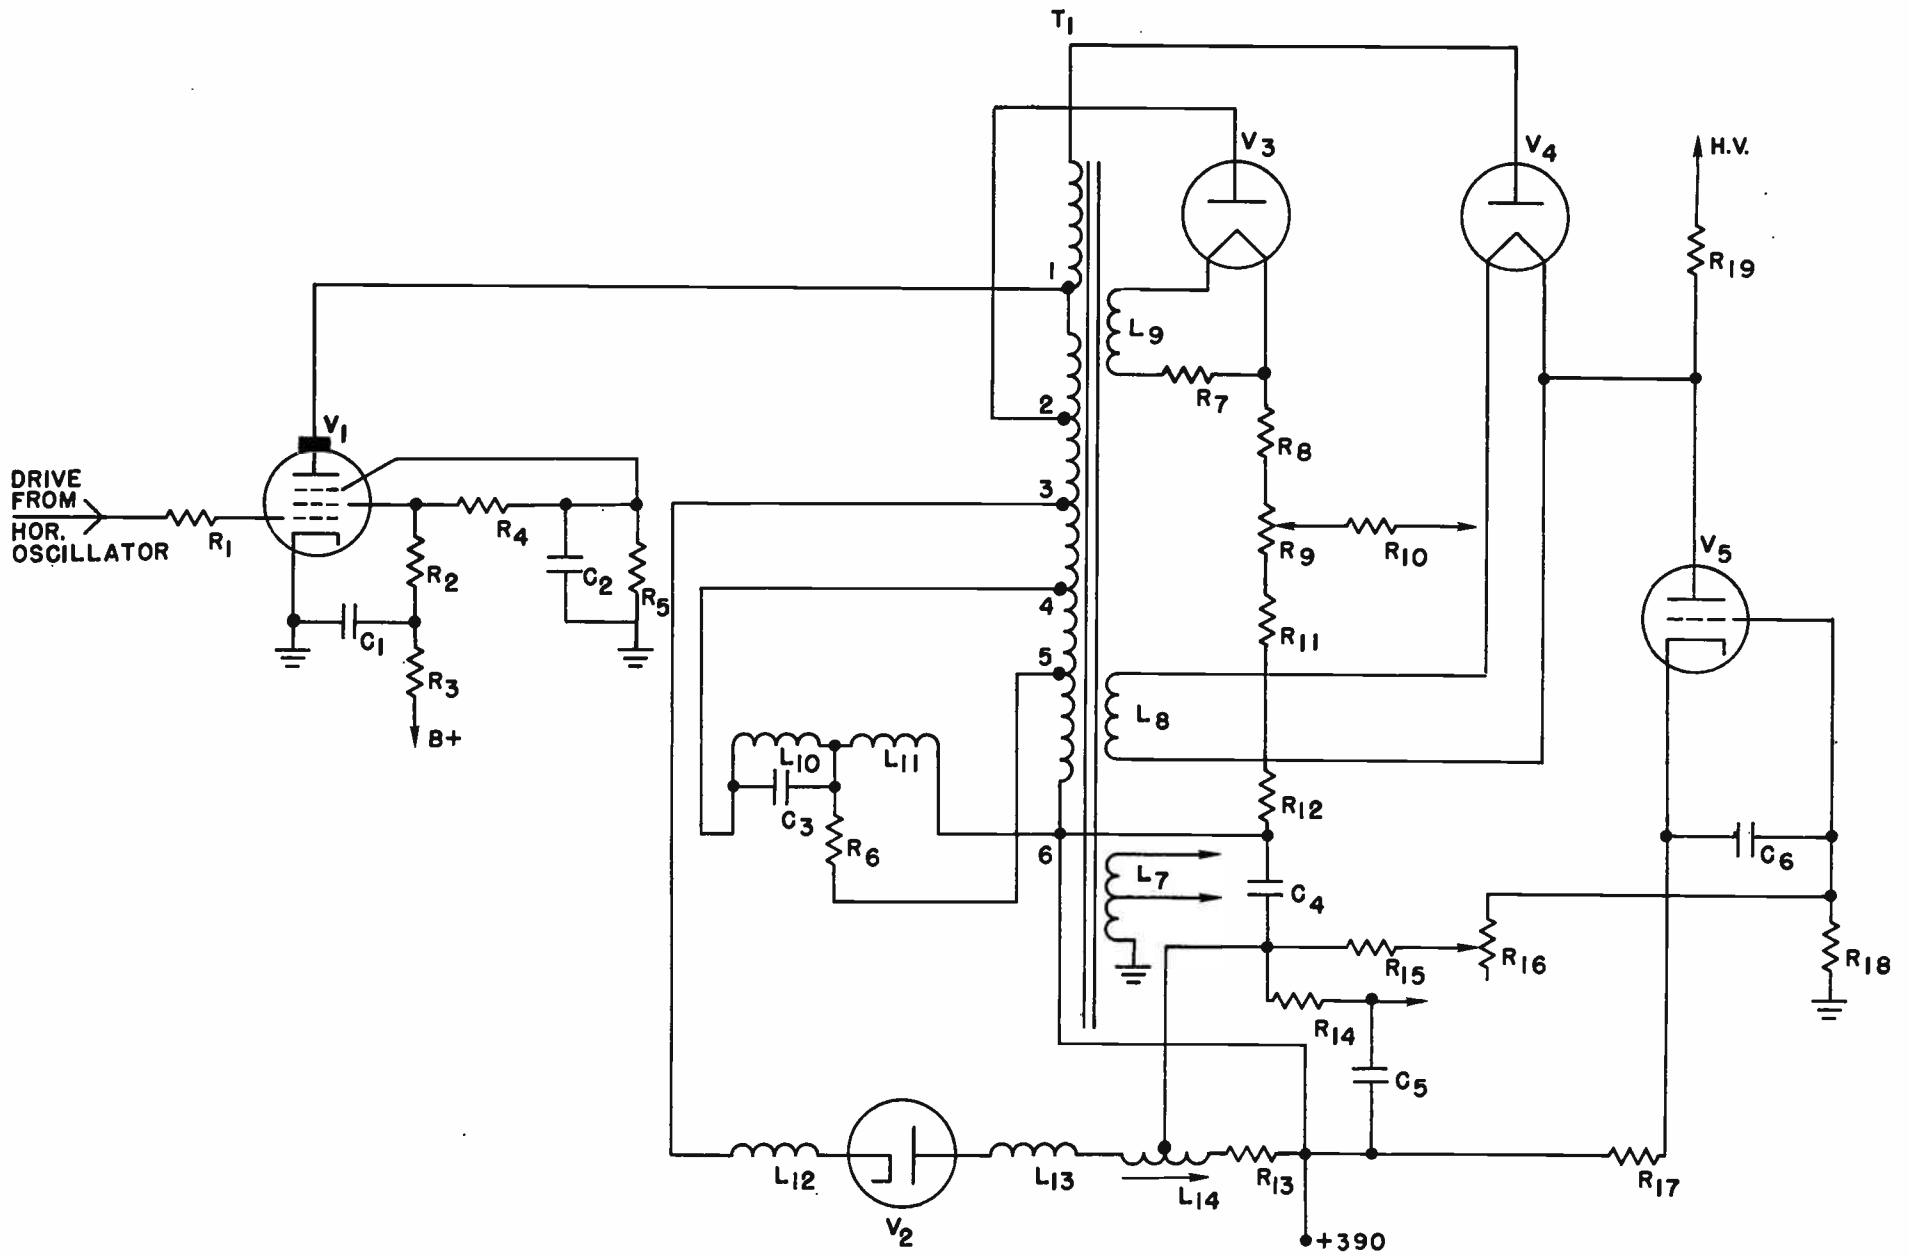

Fig. 43. Horizontal output circuit in a color TV receiver.
The horizontal output system of another color TV receiver is shown in Fig. 43. In this circuit V_1 is the horizontal output stage and connects to the tap marked 1 on the transformer. The lower end (the tap marked 6) represents signal ground potential so that the current supplied by the tube flows from terminal 1 down to terminal 6. The transformer is an autotransformer type and the deflection coils are connected between terminals 4 and 6. The center tap of the deflection coil is connected to tap 5. Thus the low-impedance deflection coils are connected between terminals 4 and 6 and the high-impedance output of the tube between terminals 1 and 6.
- (ad) What purpose does V_3 serve in the circuit shown in Fig. 43?
- (ae) How is the filament voltage required for V_3 and V_4 obtained in the circuit shown in Fig. 43?